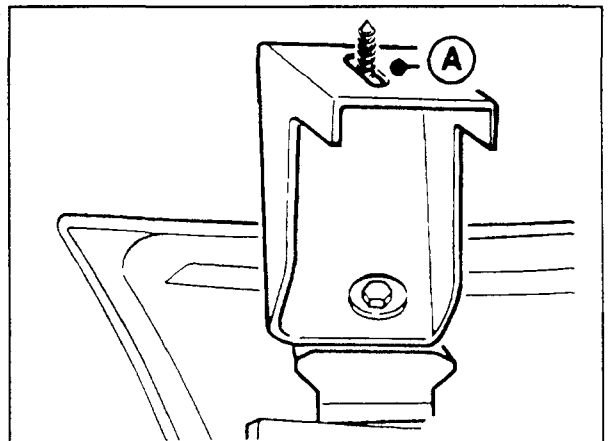

Figure 16
9. Loosen bolt (A, Figure 16) on side of bumper.